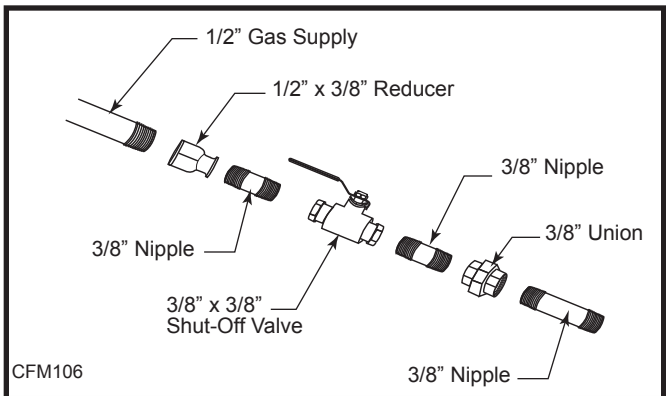

Fig. 3 Typical gas line connection.
2. Position switch assembly onto the back of the fireplace, then fasten two (2) screws as shown in Figure 3.